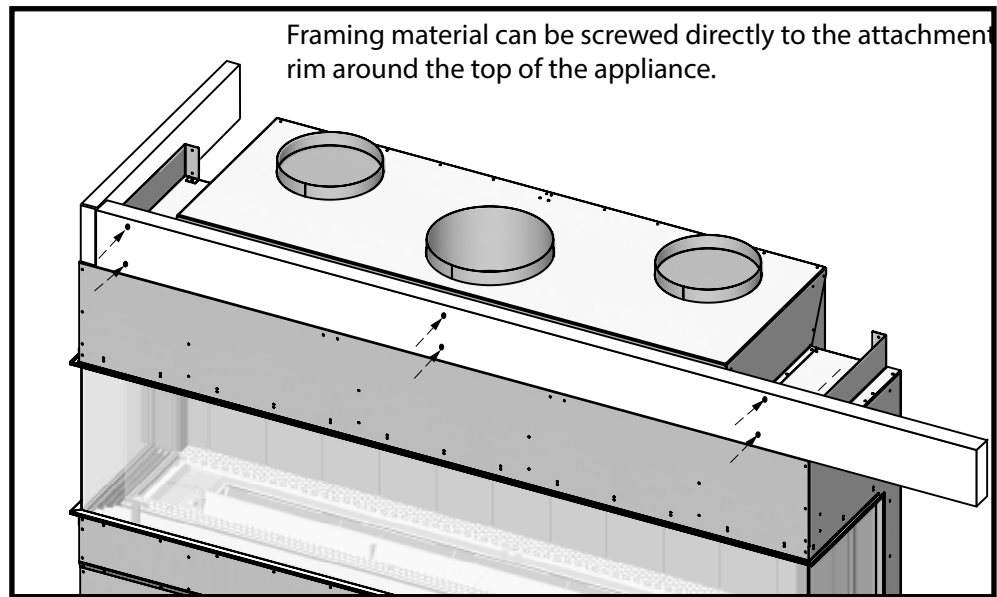

Figure 7: Stud securing points for Top Intake models.
1. When securing the top of the unit to the wooden studs, the screws must come through the metal framing from the center of the unit (Figure 7).
1. When securing wooden studs to the top of the unit, the screws can be secured through any part of the upper fastening area surface (Figure 7).